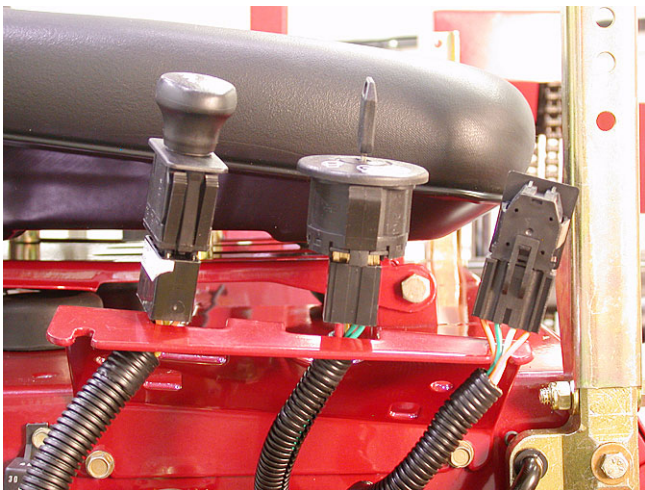

Figure 18.5
18.5. The PTO switch is located on the right console behind the key switch. This switch accomplishes many tasks, it is part of the start circuit, PTO run circuit, and reverse safety circuit. See Figure 18.5.